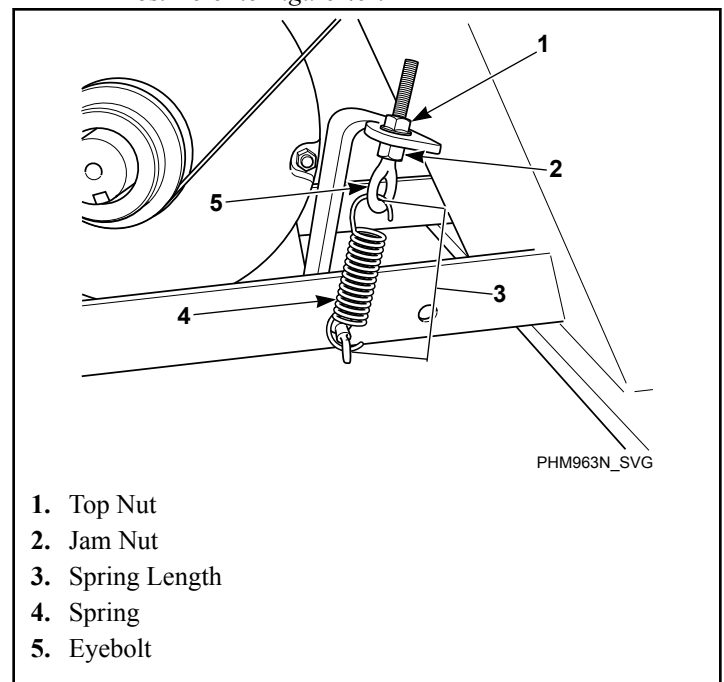

Figure 45
- **Frequency Gauge.** Tighten eyebolt top nut until the correct frequency (refer to *Table 36*) is obtained mid-span. Torque jam nut to spring bracket to 20.6 ± 2 ft.-lbs. Refer to *Figure 45*.
Torque jam nut to spring bracket to 20.6 ± 2 ft.-lbs. Refer to *Figure 45*.
- **Spring Length.** Tighten eyebolt top nut until the spring measures 3 15/16 inches [103 mm] (45-65 pound models) or (85-160 pound models) between the hooks. Torque jam nut to spring bracket to 20.6 ± 2 ft.-lbs. Refer to *Figure 45*.
- **Maintain Tension During Belt Removal.** If proper tension is achieved, tape the jam nut in place and loosen eyebolt top nut to release the belt. Replace belt and retighten eyebolt top nut back to jam nut position. Refer to *Figure 45*.